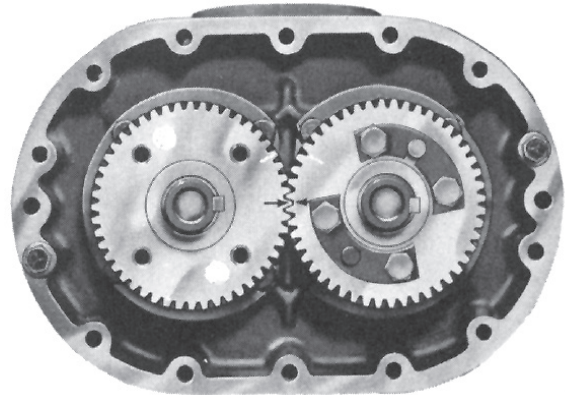
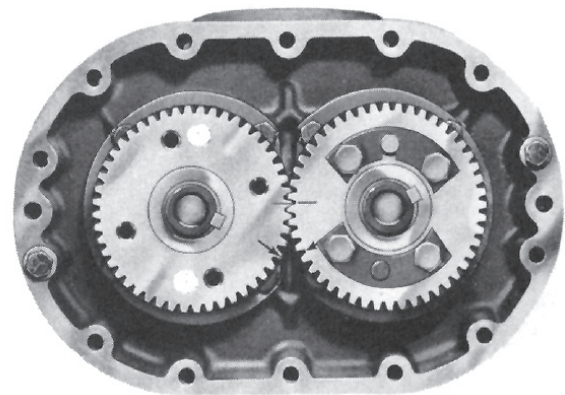

Figure 8-1 – Keyways in line and timing marks matched
Figure 8-2 – Timing marks advanced 3 teeth (reference marks aligned)
- a. Align the timing marks on the gears (**Figure 8-1**). Rotate the drive gear clockwise approximately three teeth and mark a matching reference line on each gear as shown in **Figure 8-2**. This gear position is necessary so rotors will bear and not jam. Do not allow the gears to move from the marked reference line while pulling. Use a light rocking motion to ensure that the lobes have not jammed. Remove the driven gear first and then remove the drive gear.
9. Insert gear keys in their proper location and flush with the top of the shaft. Use the two keyways facing to the right. A tight fit is required. Coat the shafts and keys with lubricant. Install the drive gear (right hand helix) on the drive rotor (left side). To install the driven gear, align the reference marks as shown in **Figure 8-2**. Install the driven gear carefully to avoid damaging any teeth when engaging opposite gear. Secure with spacers, washers, and flat-head Allen screws.
Inner race of bearing has a flange on one side only. This flange must face outward. **See Figure 8-2.**